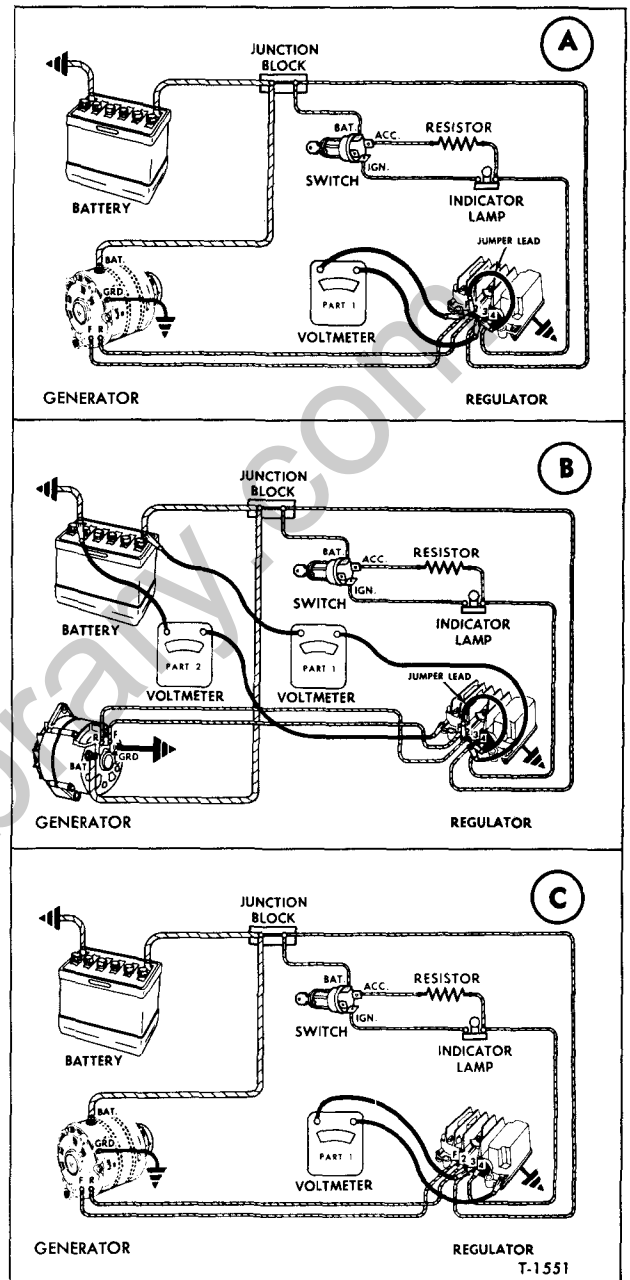

Figure 15—Connections for Testing 1116374 or 1116378 Regulator Voltage Setting (Typical)
1. Make connections as shown in View A, figure 15.
a. Make connections as shown in View B, Part 1, figure 15. and record the voltage drop.
b. Make connections as shown in View B, Part 2, figure 15, and record the voltage drop.
d. If total voltage in Step c. is below .25 volt, make connections as shown in View C, figure 15; then with switch on, operate engine at 1,275 rpm for 15 minutes. Leave cover on regulator. Place a thermometer ¼-inch from regulator cover and compare voltage with "Specifications" given in "Temperature Voltage Chart" at end of this section.